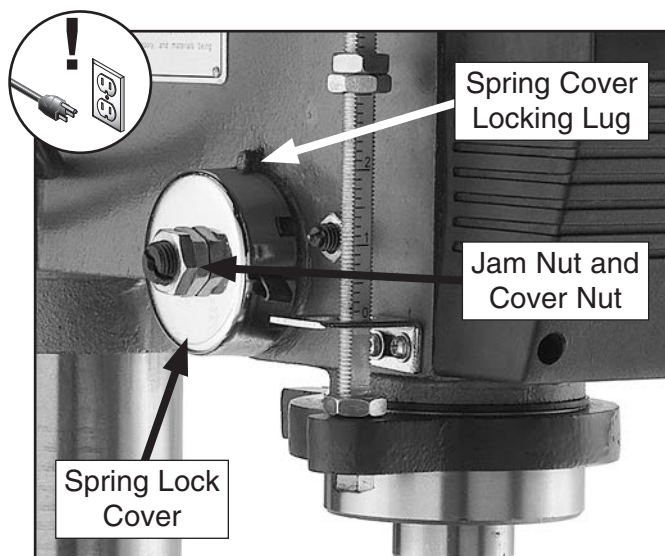

Figure 53. Feed shaft return spring assembly.
2. Wipe off any oil on the spring lock cover so it does not slip in your fingers when you hold the cover from spinning (see **Figure 53**).